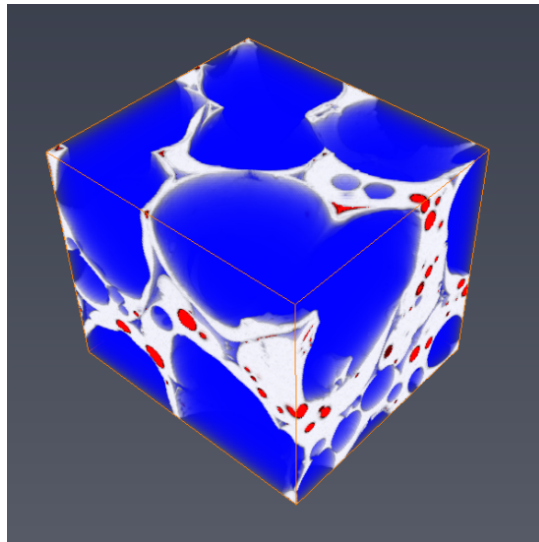

Figure 18.7: Connected Porosity vs. Unconnected Porosity
5. To visualize the connected porosity vs. unconnected porosity: attach a *Subtract Image* module to the output of the *Auto Thresholding* module and to the output of the *Axis Connectivity* module. This will create a label representing the unconnected porosity (floating void). Attach a *Volume Rendering* to this data, and use the seismic colormap. This colormap will colorize in blue the data at 0 (connected porosity) and in red the data at 1 (unconnected porosity) Set the opacity to 0.2: it allows better visualization of the solid phase. (see Figure 18.7).